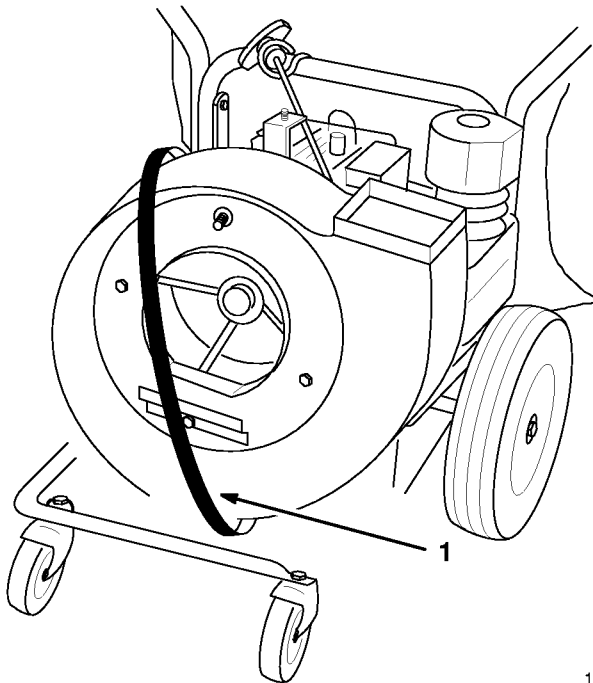

Figure 26
- Remove front snout (Fig. 26).
- Slip the bag off the chute and remove chute (Fig. 26).
9. Route the new belt around the blower housing (Fig. 26).